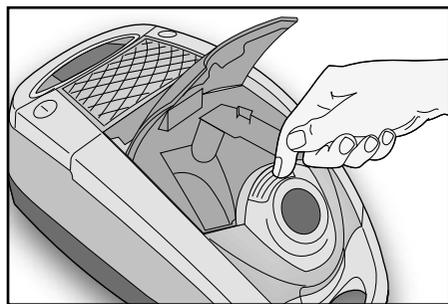

Fig. 4
Open the attachments compartment by pushing the appropriate button (C) and take out the attachment you need (FIG. 4):
- Open the relevant compartment by pressing the button (C) (FIG. 4) and put the attachments inside.